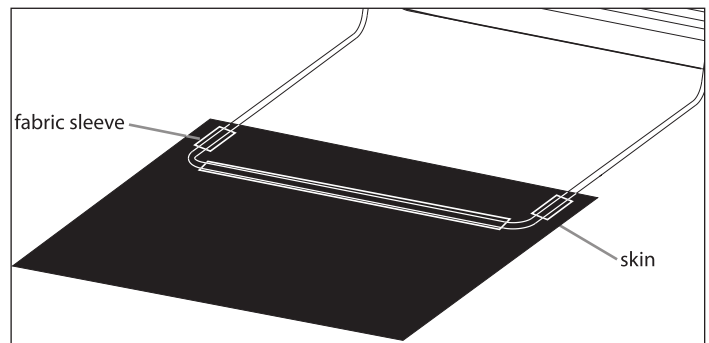

FIGURE 4
6. Unfold the skin and locate the Eskimo® logo near the zippered door, which is in the front of the sled. With the outer part of the shelter skin lying facing down, locate the (3) pole sleeves on the bottom front, right side, and left side of the shelter skin. Slide the remaining frame support pole (15017) through the (3) pole sleeves. **SEE FIGURE 4**
7. Slide the remaining (2) pole caps (15295) onto the ends of the frame support pole (15017) from the previous step.
8. Attach the frame support pole (15017) with the attached pole caps (15295), from the previous step, into slot #4 on each of the (2) hinges (15062). Use (2) ¼-20 x 2-1/4" bolts, and (2) ¼-20 nylock nuts to complete this step. **REFER BACK TO FIGURE 4**